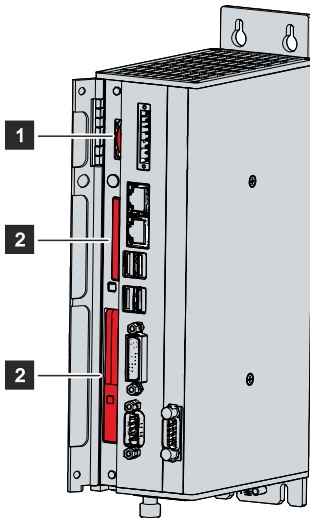

Fig. 23: C6920 _Battery and storage media
You now have access to the battery (1) and storage media (2) (see Fig. 23).